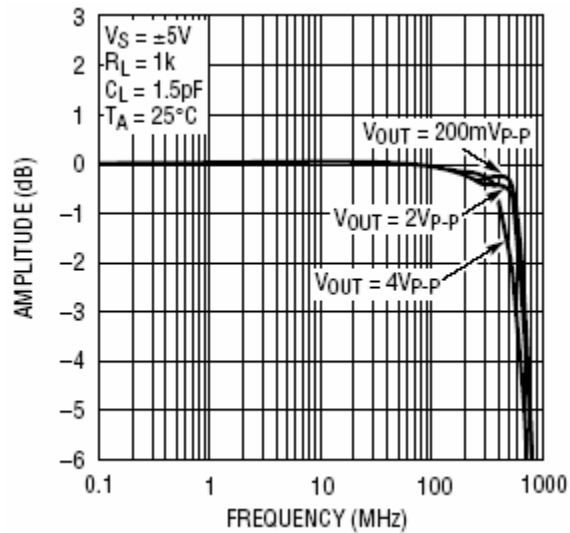

Figure 2. Typical Transmission Frequency Response
7. Connect a Network Analyzer (if used) to the appropriate channels to measure frequency response and crosstalk as desired. Figure 2 shows a typical transmission plot for 1k loading. Use of  $75\Omega$  loading with the DC794 as shipped will reduce the -3dB response to about 450MHz (and show a passband loss of -6dB). If the analyzer has only a low-impedance input, then the  $R_L=1k\Omega$  condition can be simulated by installing  $953\Omega$  resistors in R1, R2, and R3 and providing a 26.05dB correction to the  $50\Omega$  analyzer reading (or 22.74dB for a  $75\Omega$  instrument).